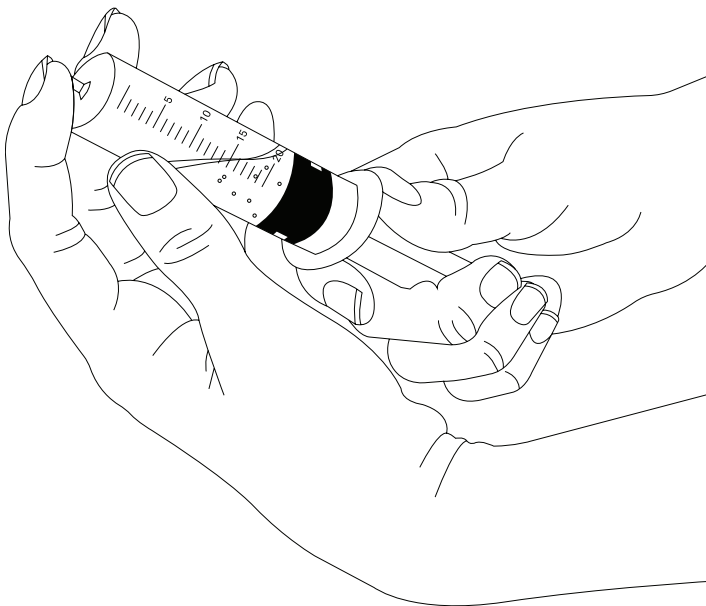

Figure 17 Collecting air bubbles
6. Shake and turn the reservoir syringe to collect the air bubbles appearing at the inner surface of the syringe Figure 17.
9. Push the tube piece on the tip of the syringe (Figure 17).